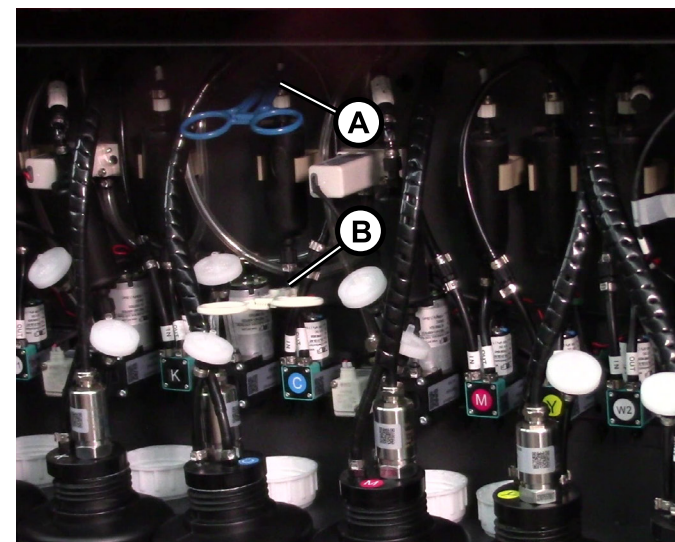

Figure 6-1 Hemostat Clamping Locations
4. Using EFI-provided hemostats, clamp the ink tubes (Figure 6-1, A and B) above and below the ink filter.